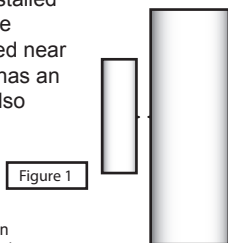

Figure 1
- 3 Make sure the alignment arrow on the magnet points to the alignment mark on the sensor (see Figure 1).
- 2 When mounting the magnet, line up the arrow on the magnet with the middle line on one side of the sensor (see Figure 1). Mount the magnet no more than 0.4 in (1 mm) away from the sensor. Be sure to secure the magnet with adhesive.